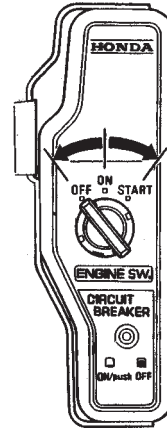

Figure 32. Engine Ignition Switch (OFF Position)
4. Place the **Engine ON/OFF switch** (Figure 32) in the "OFF" position and remove the key. Place the key in a safe place.